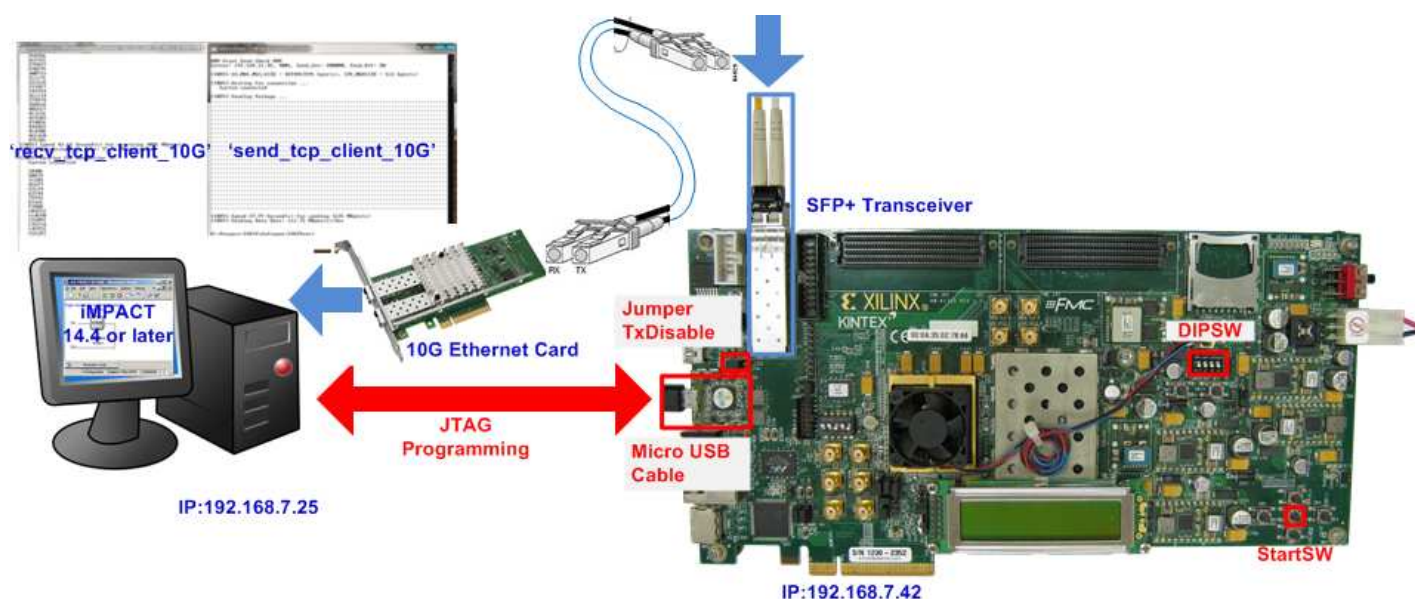

Figure 1 TOE10G-IP Demo Environment Setup
As shown in Figure 1, to run TOE10G-IP send demo, please prepare
- Press StartSW as shown in Figure 1(SW5) to initialize parameter in system, and then LED0 will turn on, as shown in Figure 8 and Figure 9 following DIPSW[1] setting.